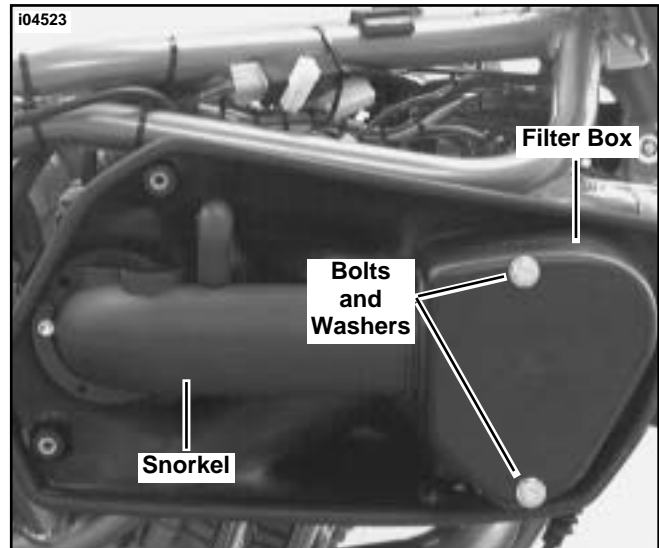

Figure 2. Remove Filter Box (S3 and S3T Shown)
**S3 and S3T Models-** See Figure 2. Remove two bolts and washers from filter box. Slide filter box forward, away from snorkel. Save bolts and washers.
**S3 and S3T Models**- Refer to Figure 2. Install filter element into air filter box, if removed. Using screws and washers saved in Step 3, fasten filter box to backplate and tighten securely.